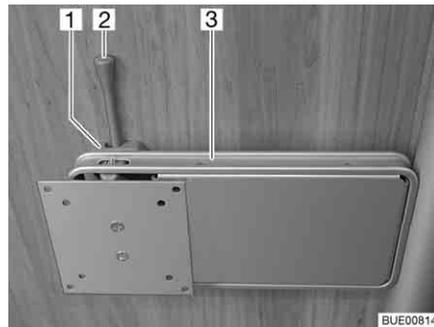

Fig. 45 Holder on the column
- Push the release lever (Fig. 45,2) to the side and turn the holder (Fig. 45,3) with the flat screen to the desired position.
- Turn flat screen back until the holder (Fig. 45,3) engages in the lock (Fig. 45,1).